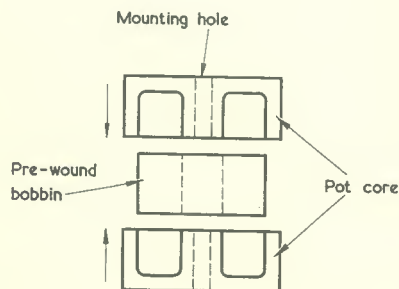

Fig. 3. How the pot core and bobbin are assembled. They are secured to the Veroboard by a 6BA screw and nut as described in the text
(10) Tone Switch. Connect a plain link between 21a and 20b. Bolt L₃ pot core and bobbin in place (see Fig. 3). The pot core and bobbin are assembled in the following manner. Fit the bobbin in the pot core halves and secure the assembly to the Veroboard using a single 6BA screw and nut fitted with shake-proof washers. Coat the nut and screw end with